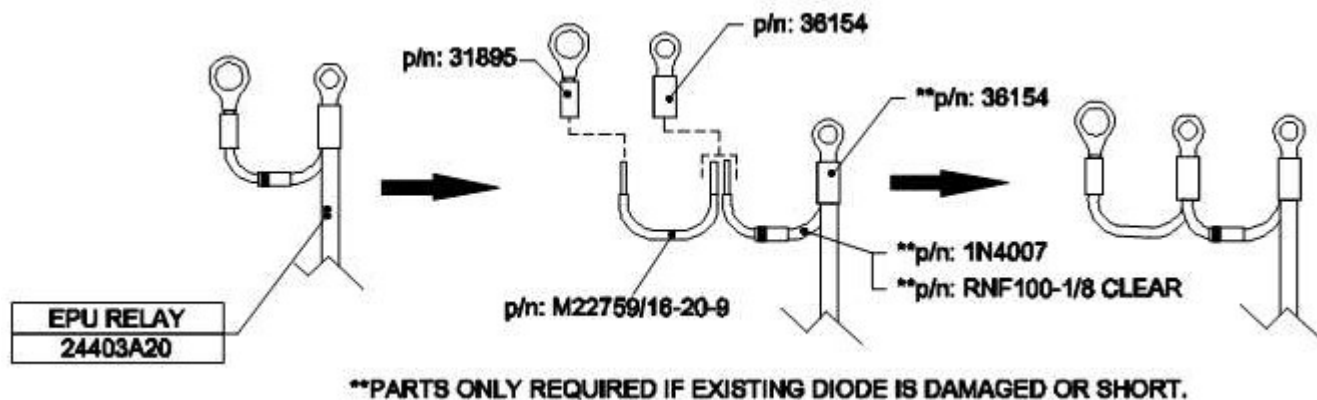

Figure 8. EPU relay wire modification.
15. Remove the heat shrink from the capped and stowed wire 24403A20, and rework the EPU relay wire as shown in Figure 8.